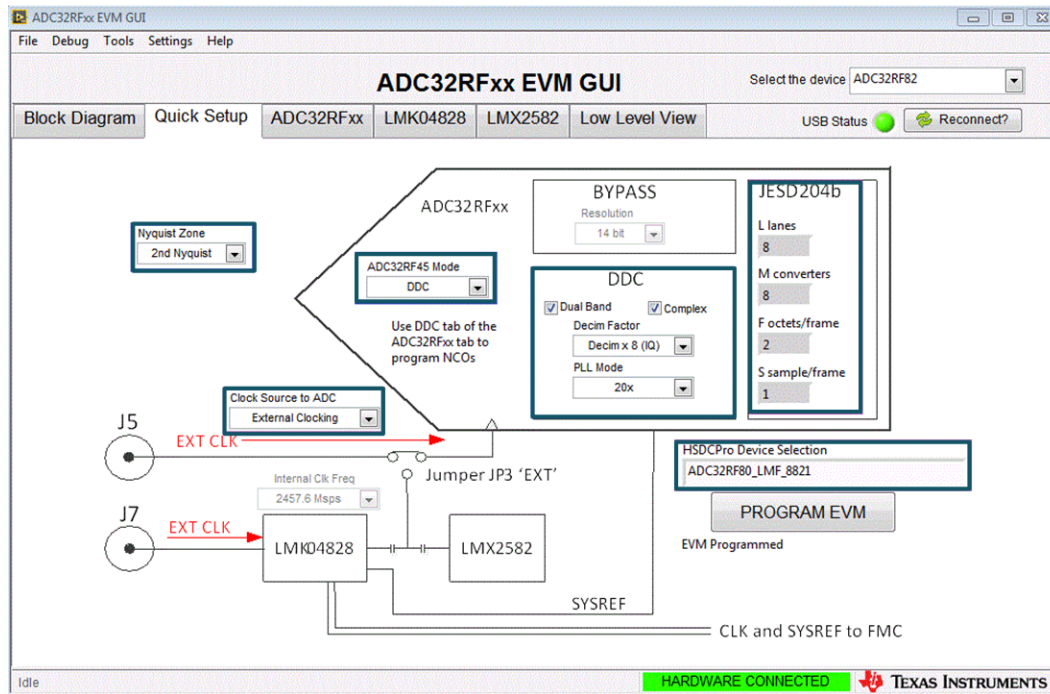
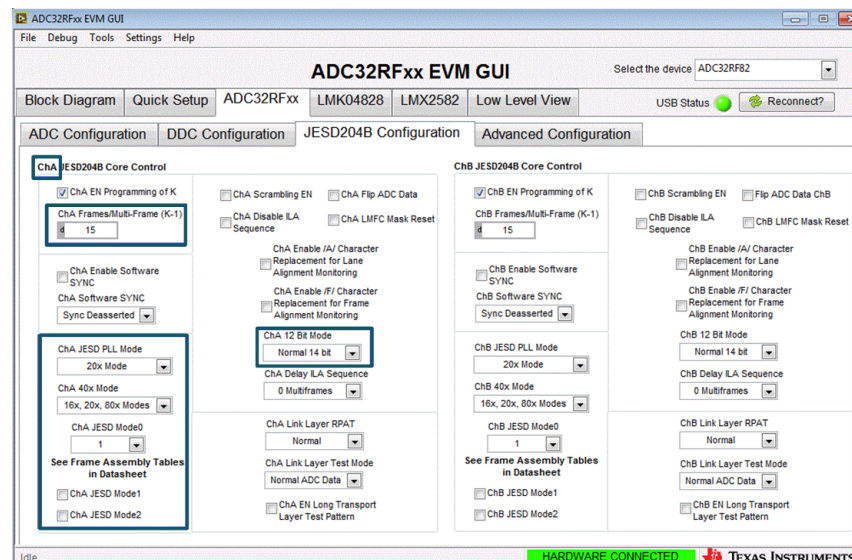

Figure 9. ADC32RFxx-EVM Quick Setup View DDC Mode
Figure 10. ADC32RFxx-EVM GUI JESD204B Configuration Tab DDC Mode
10. After pressing the **PROGRAM EVM** button, the device is configured as shown in Figure 9 and Figure 10.